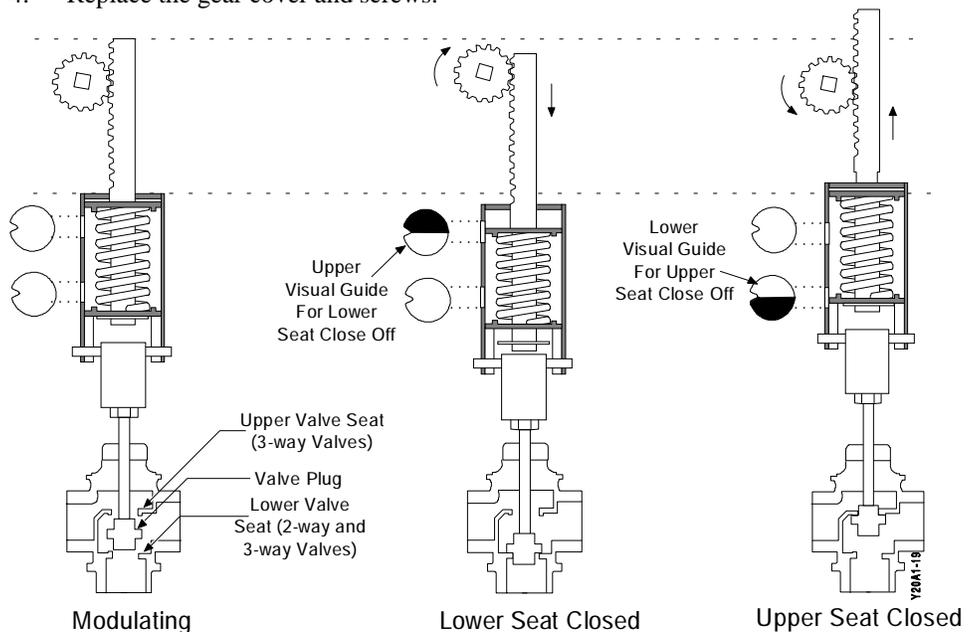

Figure 19: Linkage Adjustment Stem Up 3-Way Valve
7. Figure 19 illustrates the over travel indication for seating stem up 3-way valves.